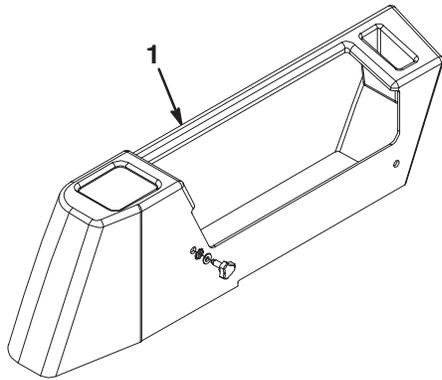

Figure 7
10. Remove the control panel cover located to the right of the operator's position (Fig. 7).
- Install the control panel cover (Fig. 7).